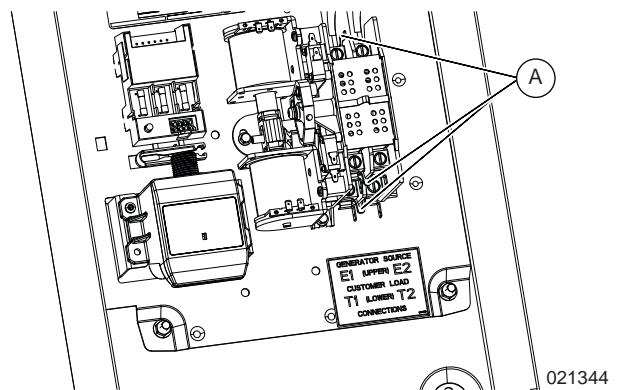

Figure 3-6. 100A Terminal Retention Clips
NOTE: See Figure 3-6. 100A rated models of the transfer mechanism come with factory installed terminal retention clip. Do not remove this clip during installation. Conductor sizes must be adequate to handle the maximum current to which they will be subjected, based on the 75°C column of tables, charts, etc. used to size
NOTE: See Figure 3-6. 100A rated models of the transfer mechanism come with factory installed terminal retention clips (A). Retention clips are intended to secure lugs to the transfer switch prior to install of conductors in terminals N1, N2, E1, E2, T1, and T2. Do not remove this clip during installation.